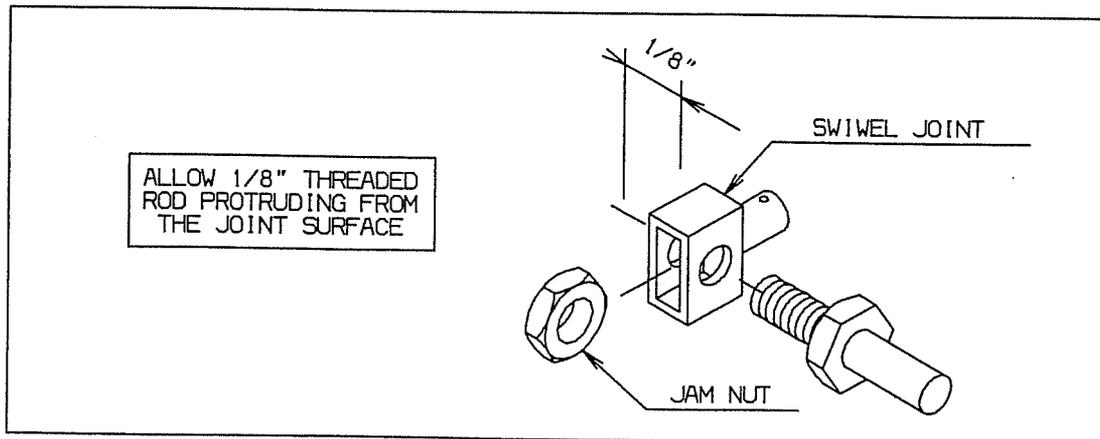

Fig. 3 - Shift Cable Swivel Connection.
- After inserting the jam nut (Refer to Fig. 3), screw the swivel joint on the shift cable rod end. Allow 1/8 inch (3.18 mm) threaded rod protruding from the joint surface.